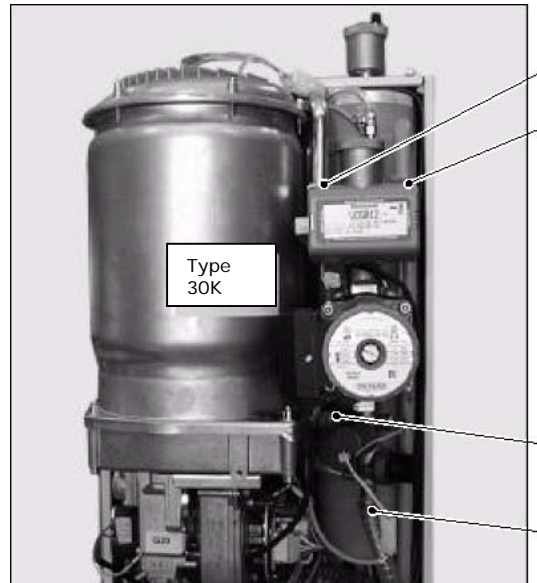

Fig. 26
- 5 Disconnect the pipe E (fig 26).
- 6 Completely unscrew the connections F, G and H (Fig. 26) and remove the complete hydraulic group.